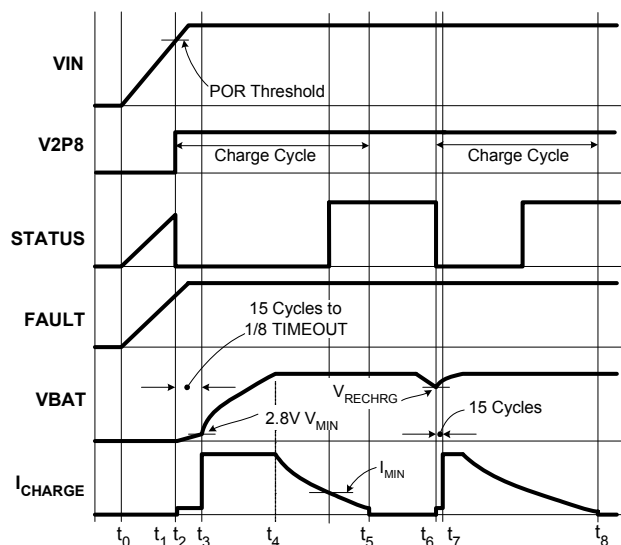

FIGURE 19. OPERATION WAVEFORMS
Figure 19 illustrates the typical signal waveforms for the linear charger from the power-up to a recharge cycle. More detailed Applications Information is given in the following.
The two indication pins, STATUS and FAULT, indicate a LOW and a HIGH logic signal respectively. Figure 19 illustrates the start-up of the charger between t_0 to t_2 .
A charge cycle consists of three charge modes: trickle mode, constant current (CC) mode, and constant voltage (CV) mode. The charge cycle always starts with the trickle mode until the battery voltage stays above V_{MIN} (2.8V typical) for 15 consecutive cycles of the internal oscillator. If the battery voltage drops below V_{MIN} during the 15 cycles, the 15-cycle counter is reset and the charger stays in the trickle mode. The charger moves to the CC mode after verifying the battery voltage. As the battery-pack terminal voltage rises to the final charge voltage V_{CH} , the CV mode begins. The terminal voltage is regulated at the constant V_{CH} in the CV mode and the charge current is expected to decline. After the charge current drops below I_{MIN} (programmable for the 4x4 and 5x5 package and programmed to 1/10 of I_{REF} for the 3x3 package; see "End-of-Charge (EOC) Current" on page 13 for more detail), the ISL6292 indicates the end-of-charge (EOC) with the STATUS pin. The charging actually does not terminate until the internal timer completes its length of TIMEOUT in order to bring the battery to its full capacity. Signals in a charge cycle are illustrated in Figure 19 between points t_2 to t_5 .
After a charge cycle completes, charging is prohibited until the battery voltage drops to a recharge threshold, V_{RECHRG} (see “Electrical Specifications” on page 3). Then a new charge cycle starts at point t_6 and ends at point t_8 , as shown in Figure 19. The safety timer is reset at t_6 .
The trickle mode charge has a time limit of 1/8 TIMEOUT. If the battery voltage does not reach V_{MIN} within this limit, a TIMEOUT fault is issued and the charger latches up. The charger stays in trickle mode for at least 15 cycles of the internal oscillator and, at most, 1/8 of TIMEOUT, as shown in Figure 19.
The end-of-charge current I_{MIN} sets the level at which the charger starts to indicate the end of the charge with the STATUS pin, as shown in Figure 19. The charger actually does not terminate charging until the end of the TIMEOUT, as described in "Total Charge Time" on page 12. The I_{MIN} is set in two ways, by connecting a resistor between the IMIN pin and ground, or by connecting the IMIN pin to the V2P8 pin. When programming with the resistor, the I_{MIN} is set in Equation 6.